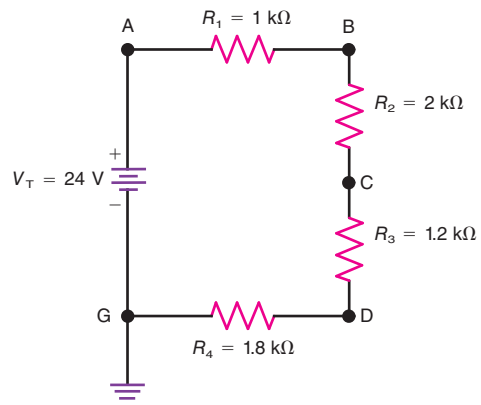

Figure 12-27
- 12.20** In Fig. 12-27, list the voltages at points A, B, C, and D (with respect to ground) for each of the following situations: